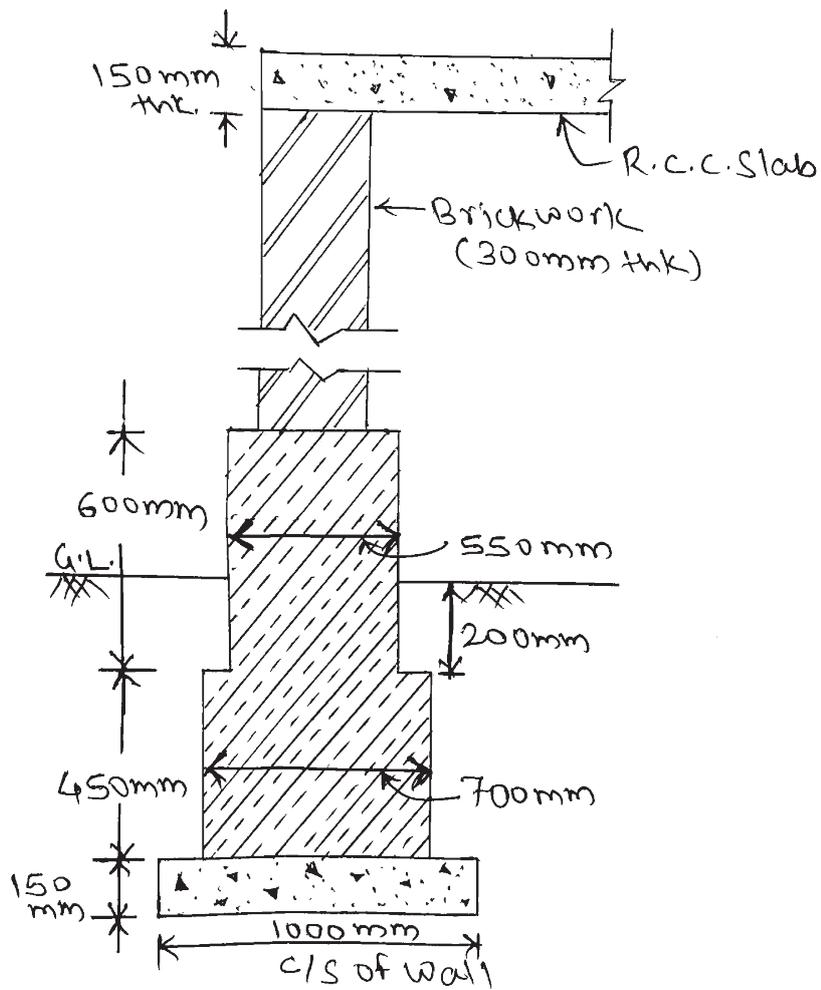

Fig. No. 2
- b) Workout quantities of any two items of work for Figure No. 2